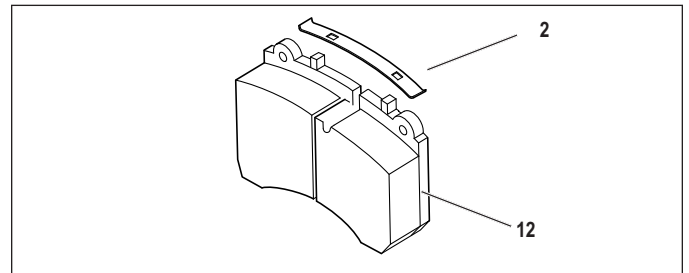

FIGURE 39 - PAD RETAINING SPRING INSTALLATION
5.2.15 Install the pad retaining springs(2) onto the brake pads(12) by inserting one end of the spring onto the lug at the top of the brake pad (See Figure 39). Carefully apply enough force to permit the second lug to fully engage, taking care to keep fingers etc. away from the spring as it seats.